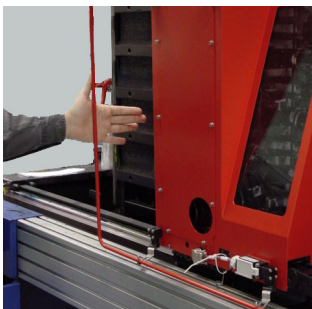

Figure 5. **Activating the Head Carriage Emergency Stop**
5. After printing a few passes, use one hand to carefully touch the metal frame fitted to the head carriage, as shown in Figure 5.